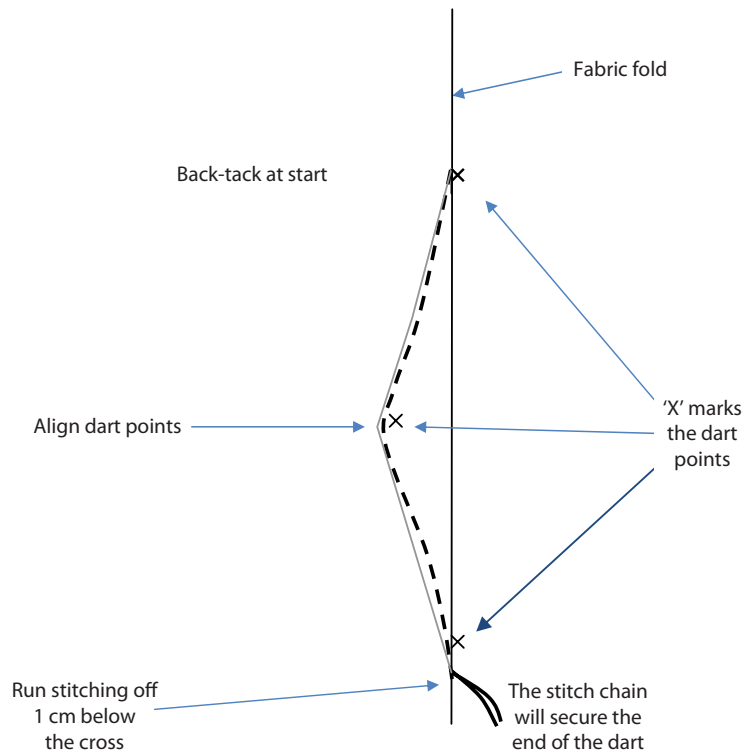

Figure 6
Using the Lockstitch (301) back-tack at the start and stitch in a slight curve as shown in Figure 6. Continue stitching 1cm below the end of the dart, run off the fabric and form an approximate 1cm chain of stitches to secure the end of the dart. **Figure 7**